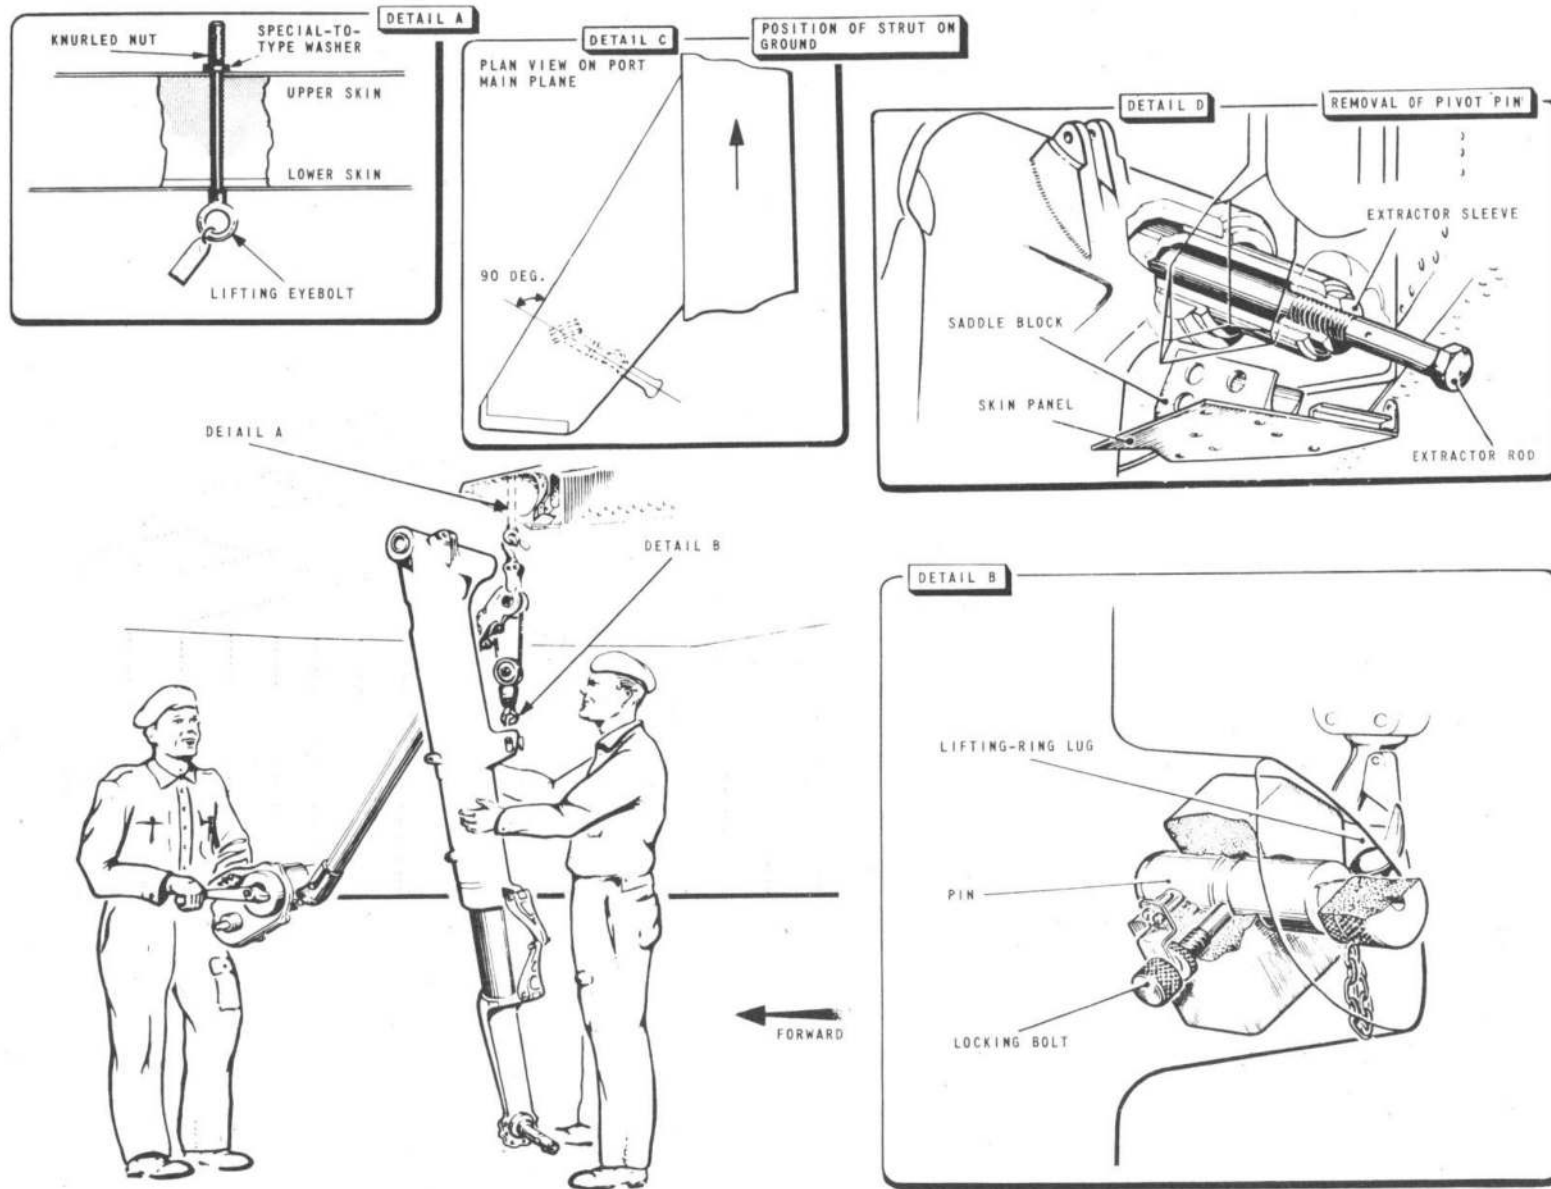

FIG.16. MAIN UNDERCARRIAGE STRUT - REMOVAL AND ASSEMBLY
- (3) Connect a ground d.c. electrical supply.
- (4) Remove the shock-absorber fairing (para. 41).
- (5) Release the three clips which secure the flexible hydraulic fluid pipes and the cables to the strut.
- (6) Disconnect the flexible pipes from the rigid pipes on the strut.
- (7) Remove the brake pressure and return pipes by disconnecting them from the Maxaret unit and detaching the swivel coupling from the strut.
- (8) Remove the wheel (para. 35) and the brake unit (para. 37).
- (9) Refer to para. 43 and carry out (5) and (11). Fold, and support, the radius rod, taking care not to damage the hydraulic pipes or to alter the fairing-flap rod adjustment.
- (10) Refer to para. 39 and carry out (6) and (7). Raise the jack clear of the strut leg and support it.
- (11) Remove the closing plug and the pin from the top and bottom ends respectively, of the main-plane slinging point just inboard of the strut pivot bracket (Sect. 2, Chap. 4). Insert the lifting eyebolt through the slinging point (fig. 16, detail A).
- (12) Fit the lifting ring lug to the
radius-rod trunnion-boss (fig. 16, detail B).
- (13) Assemble the extension tube, the top sheath hook, the winch lower block, and the handle to the hoist (A.P. 2817A). Connect the assembly between the eyebolt and the lifting eye as illustrated. Take up the weight of the strut with the hoist.
- (14) Withdraw the three bolts which secure the undercarriage pivot bracket saddle block.
- (15) Remove the saddle block and the attached skin panel together, by withdrawing three countersunk bolts from the skin panel, two at the inboard edge and one at the outboard corner, and a ¼ in. dia. hexagon head bolt attaching the panel lug to spar 4, inside the undercarriage bay.
- (16) Screw the sleeve of the pivot-pin extractor into the pivot pin. Insert the extractor rod through the sleeve and screw it down until the indicator hole in the rod is covered; steady the strut during this operation (fig. 16, detail D).
- (17) Unscrew the extractor rod and withdraw it from the sleeve.
- (18) Unscrew the extractor sleeve from the pivot pin; withdraw the pin.
- (19) Lower the strut, and with the axle pointing downwards, correctly position the strut on the ground (fig. 16, detail C).
- (1) Fit the undercarriage pivot pin into the strut ensuring that the threaded bore faces aft and that the forward end does not protrude beyond the bush.
- (2) Fit the lifting ring lug to the strut (fig. 16, detail B).
- (3) Attach the strut to the lifting equipment and hoist it into position. Tap the pivot pin into engagement with the pivot bracket and rotate it, using the peg spanner, until the grooves in the pin are aligned with the holes in the bracket; use the fixing bolts to check.
- (4) Offer up the saddle block and skin panel and fit the panel securing bolts. Screw in the main securing bolts and tighten and wire-lock them.
- (5) Dismantle the lifting equipment and fit the slinging point plugs.
- (6) Refer to para. 44 (6) and connect the radius rod to the strut. Engage the down-lock.
- (7) Fill and inflate the shock absorber (para. 22).
- (8) Fit the brake pressure and return hydraulic fluid pipes to the strut by attaching the swivel coupling. Connect the upper pipe-union nuts to the flexible pipes and wire-lock the unions.